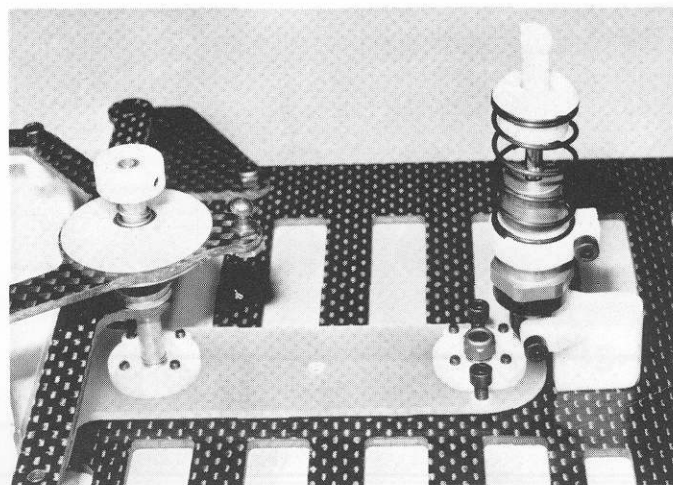

Fig. 65
Figs. 65 & 66 Now we fill the shock with shock oil. (1) Take your bottle of shock oil and fill the shock until the oil is flush with the top of the shock body. (2) Move the shock shaft up and down several times to make sure that there are no air bubbles trapped under the piston. If there were air bubbles, refill the shock with oil to the top again. (3) Push the shock shaft up until the piston is flush with the top of the shock body. (4) Now take your #6439 black aluminum shock cap, from bag 4, and thread it onto the shock body. There should be no gap between the cap and the hex portion of the shock body (see arrow in fig 65). The O-ring will actually be doing the sealing, so don't overtighten the cap. (5) As soon as the cap comes in contact with the body, just turn it a bit further to seat it.